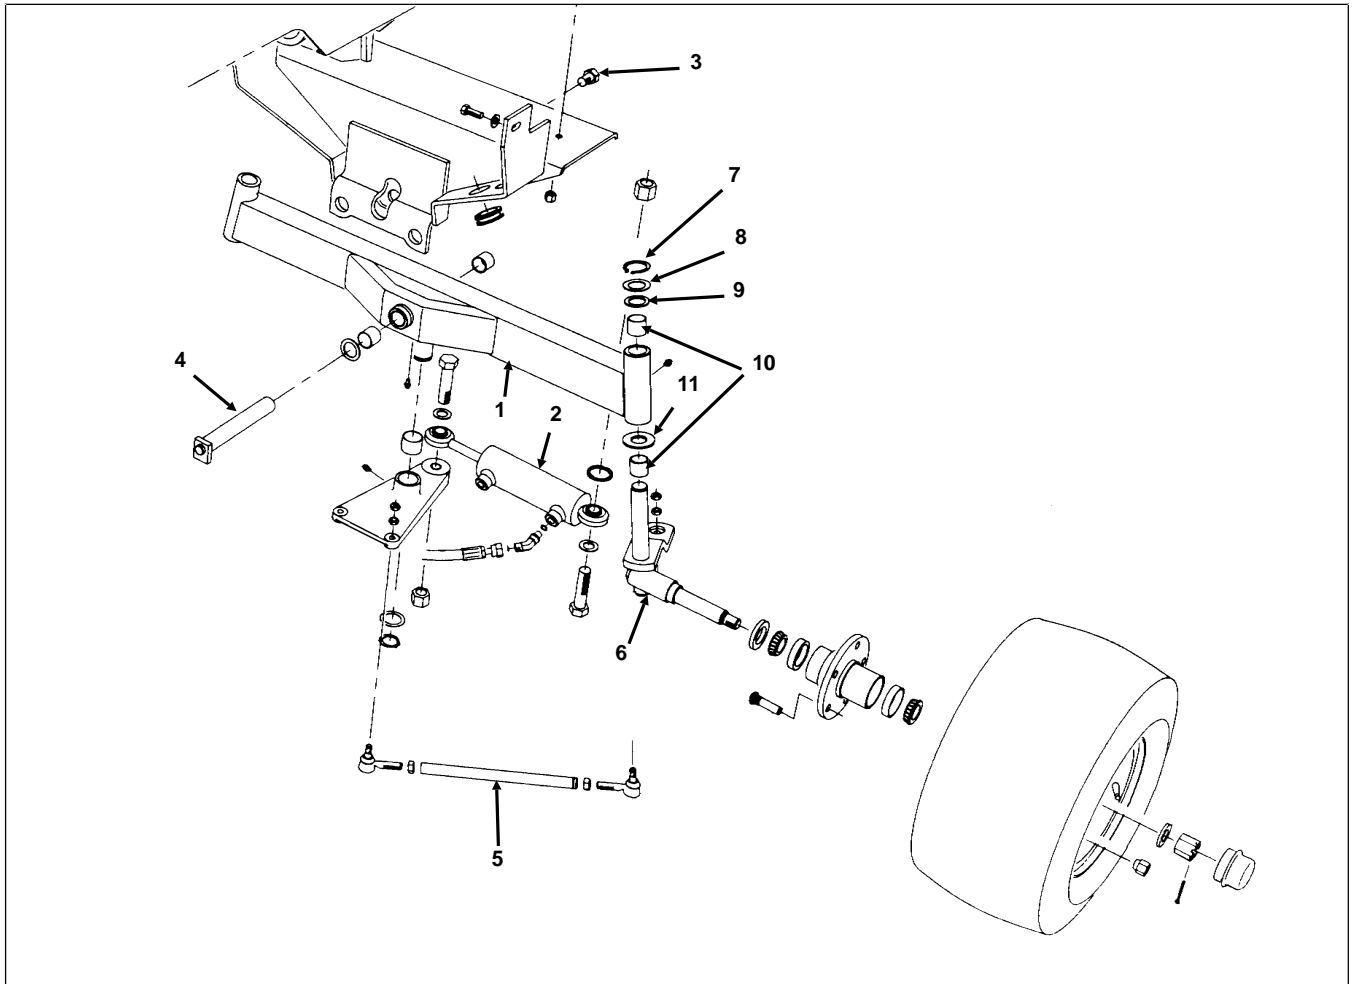

Figure 17
2. Remove the cap screw securing the end of the axle pin to the chassis (Fig. 17).